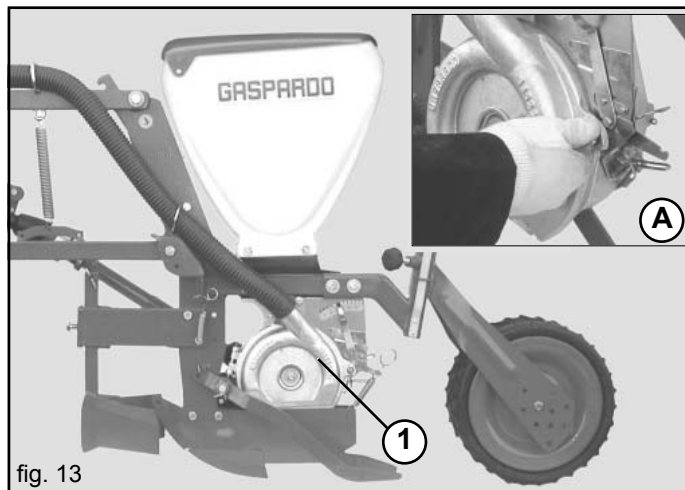

fig. 13
A disk (1, fig. 13), chosen according to the size of the seed, is assembled inside the distributors (the seed should not enter the hole). Should suction cause some seeds to clog the holes of the disk, these will be left on the ground.
- Hand-tighten only the winged nut that closes the cover (A, fig. 13).
- 4) Unscrew and remove the winged nut (A, Fig.13);